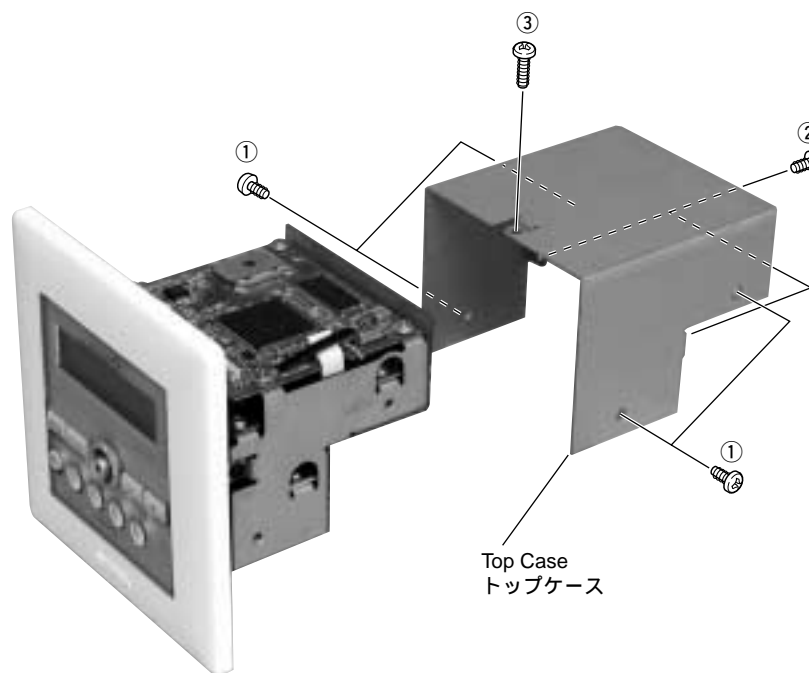

Fig. 1
- a) Remove 4 screws marked [①], 2 screws marked [②] and 1 screw marked [③]. (Fig. 1)
- b) Remove the Top Case by sliding it rearward. (Fig. 1)
- a) ①のネジ4本、②のネジ2本、③のネジ1本を外します。( Fig.1 )
- b) トップケースを後方へスライドさせ、取り外します。( Fig.1 )